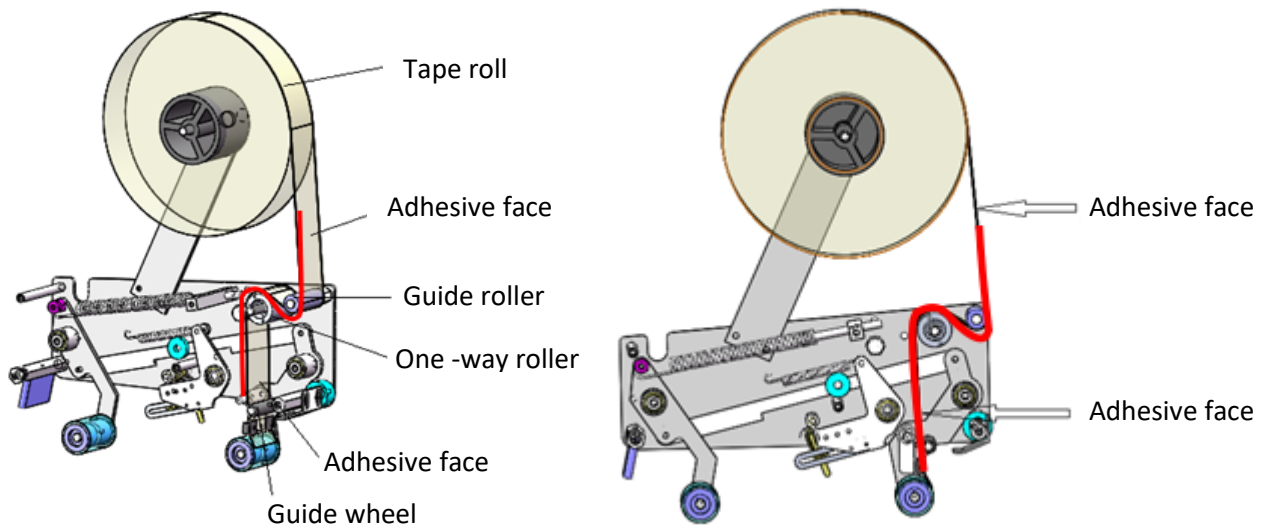

Figure 5
3. Now guide the tape under the first guide roller, over the one-way roller, and through the clip just above the last guide roller. **The red line in figure 5 shows the tape path.**